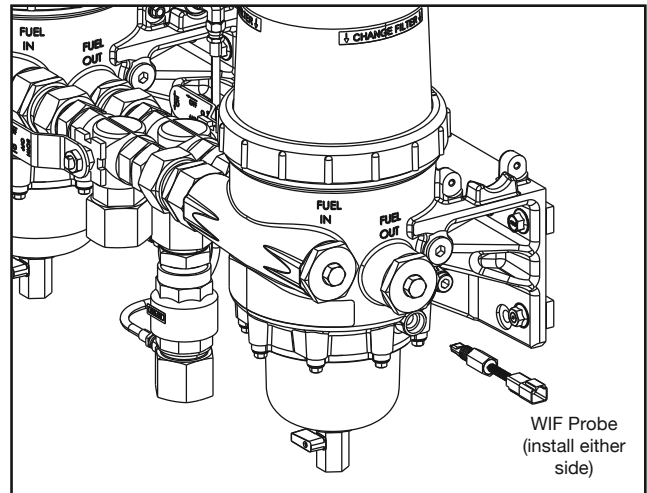

Figure 2 - WIF Probe Installation
1. Install the WIF Probe (SP1123 for all models except for the Industrial Pro Duplex Short and industrial Pro Duplex Tall; for the Industrial Pro Duplex Short and Industrial Pro Duplex Tall, use SP72026) into the side of the Industrial Pro® (see Figure 2). Torque to 20-24 in-lbs (2.3-2.7 N-m).